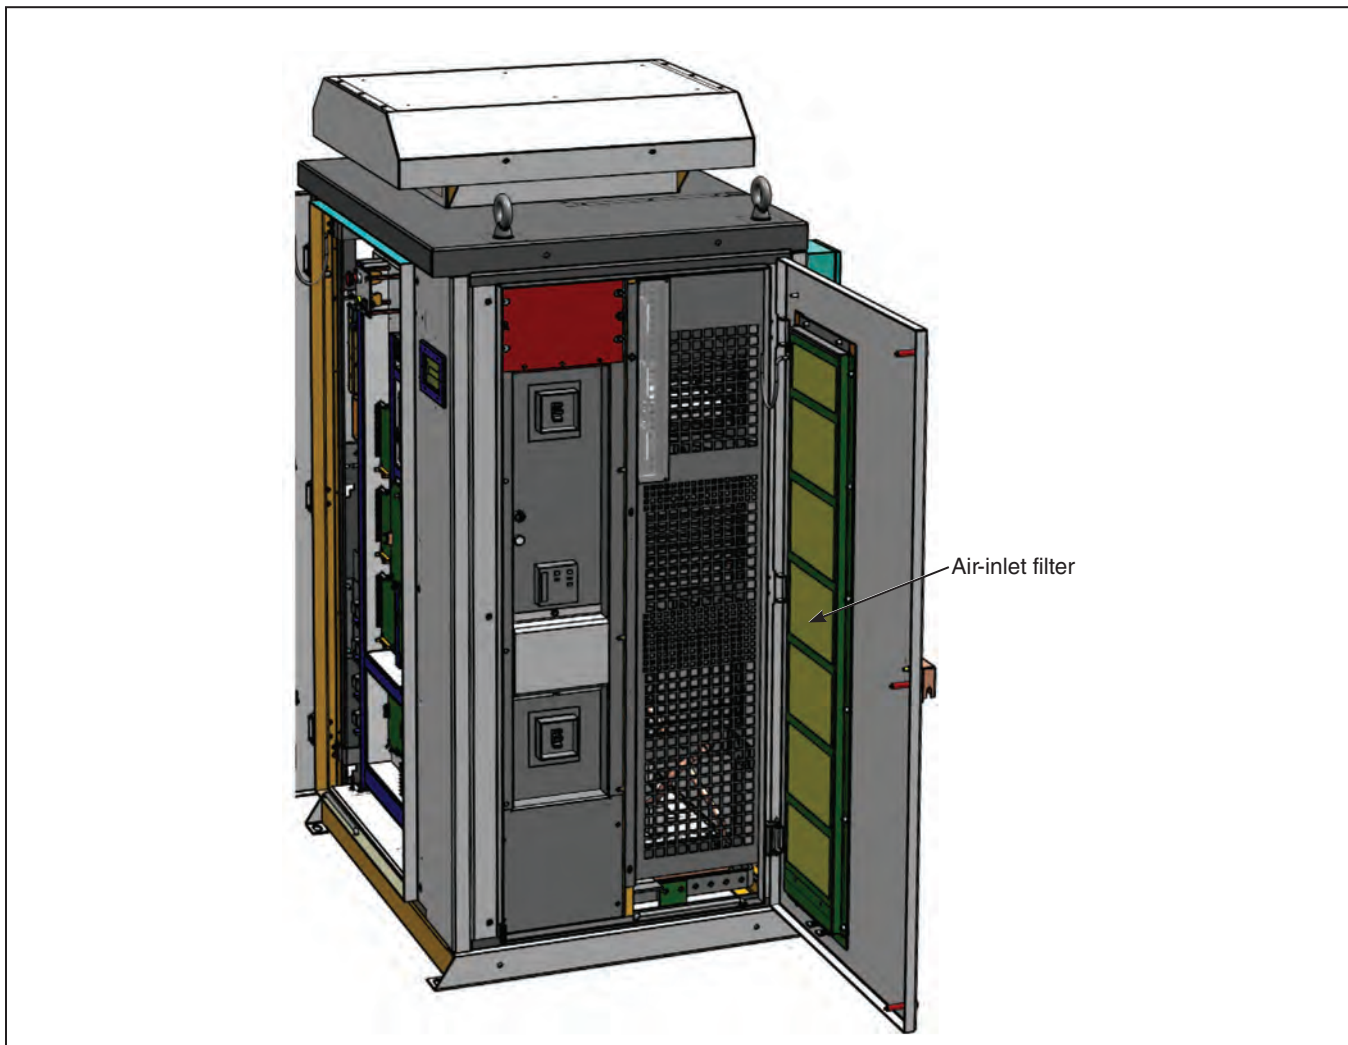

Figure 26. Location of the air-inlet filter in the switchgear bay.
- Inspect the air-inlet filter (inside of the switchgear bay door) for debris and obstructions that can cause air-flow restrictions. The filter can be replaced by unbolting the mounts with a ½-inch wrench (or socket). See Figure 26 for the location of the air-inlet filter.